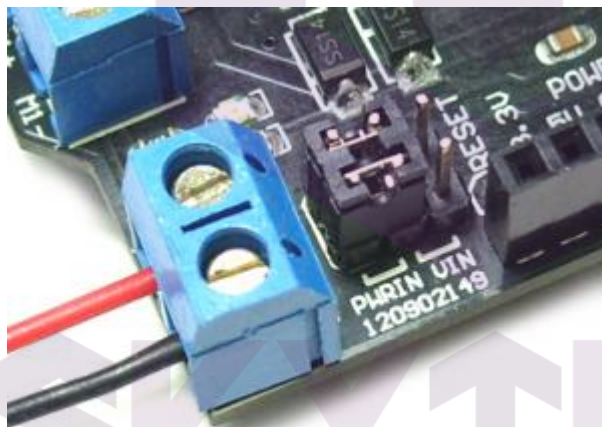

Figure 4 The motors are powered by external power supply
**PWRIN (Figure 4 below) :** The motors can be powered by external power supply when the motor current exceeds the limits provided from the Arduino. The switch between external and Arduino power is implemented by two jumpers.